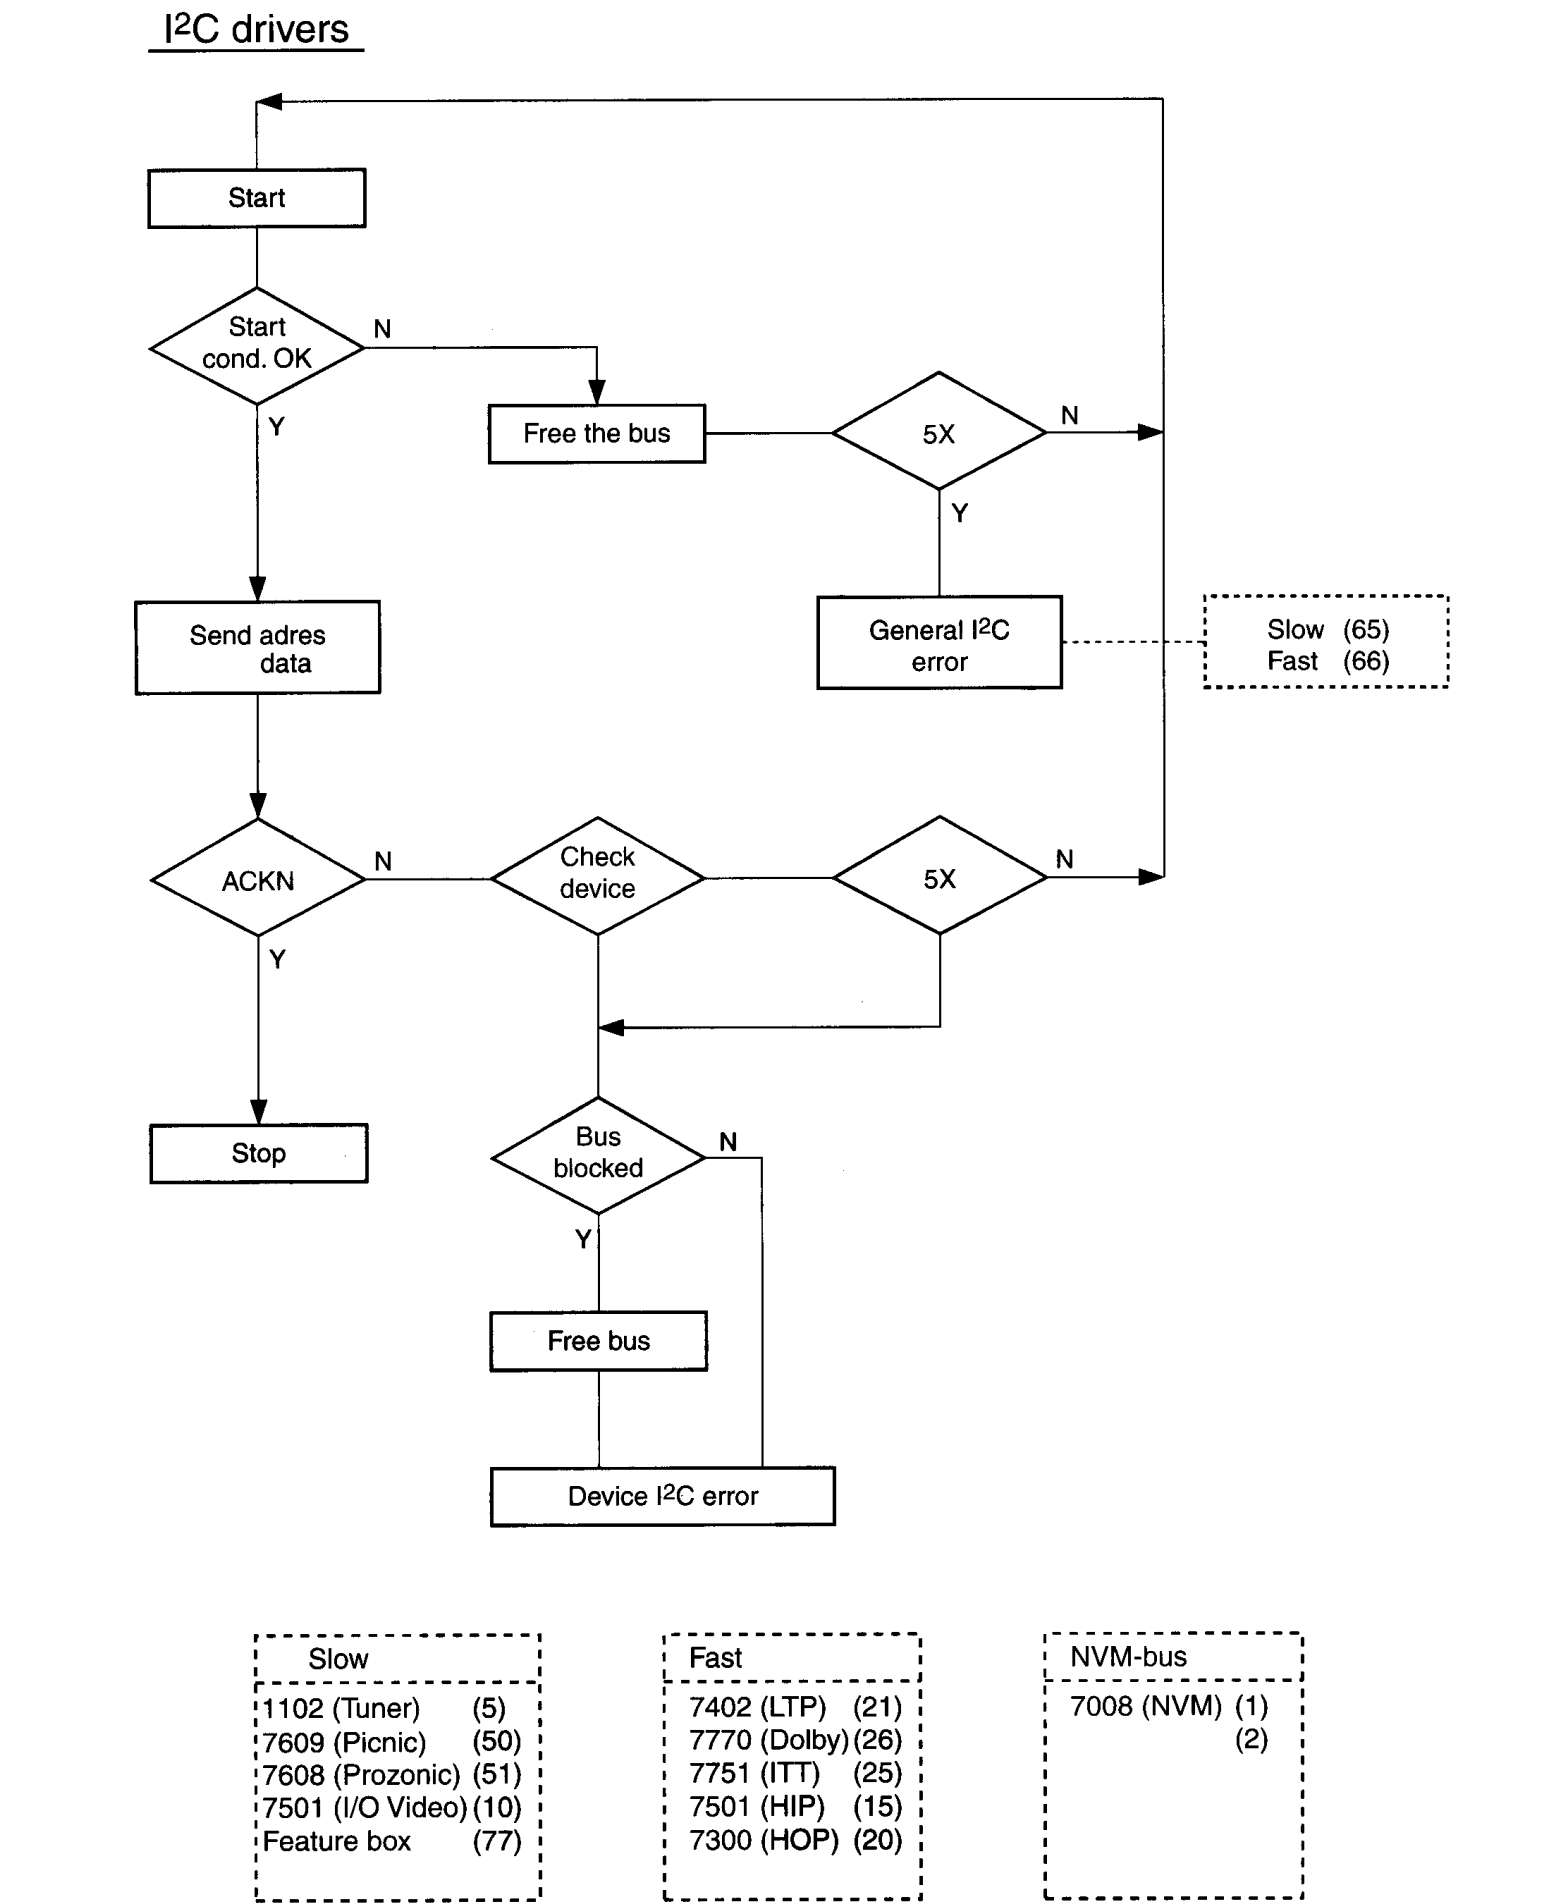

Figure 5-23
5.4.2 Protection from the I2C bus (fig. 5-23).